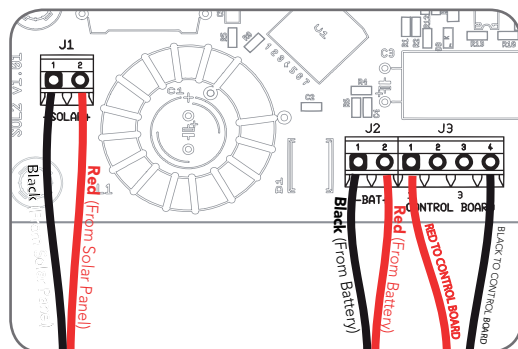

Fig 19.4
- Connect the red wire to the Charger Board's "BAT+" connector, and the black wire to the "-BAT" connector (**Fig. 19.4**).